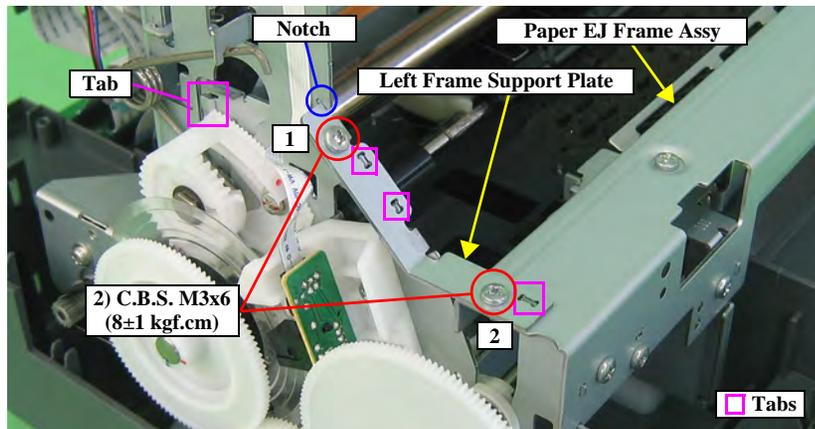

Figure 4-58. Removing the Left Frame Support Plate
- Insert the Left Frame Support Plate into the notch on the Main Frame. See Figure 4-58 (p.89)
- Align the two tabs on the Main Frame and the tab on the Paper EJ Frame Assy with the three positioning holes on the Frame Support Plate (Left). See Figure 4-58 (p.89)
- Align the tab (rear side) of the Left Frame Support Plate with the outside of the Left CR Shaft Mounting Plate. See Figure 4-58 (p.89)
- Tighten the screws in the order shown in Figure 4-58